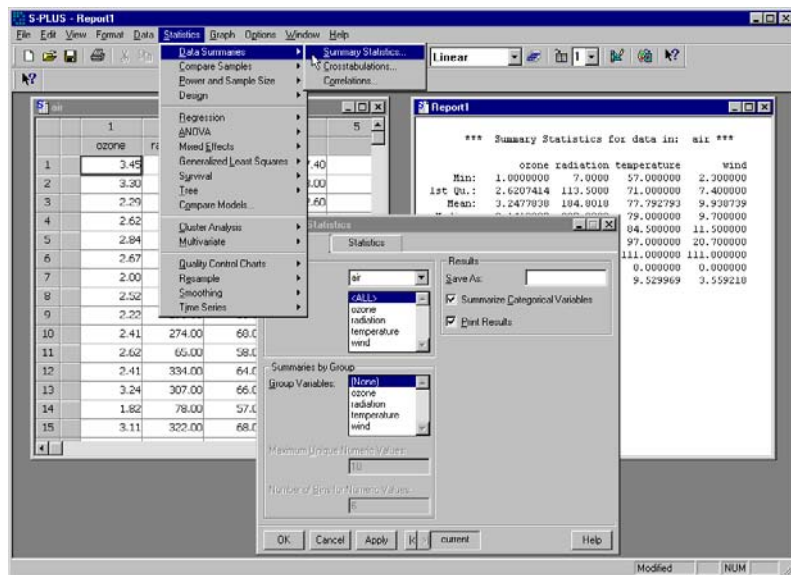

Figure 6.1: Statistics-related menus and windows.
Figure 6.1 displays many elements of the S-PLUS interface.
- **Statistics menu:** The **Statistics** menu gives you access to most of the statistical procedures available in S-PLUS. The procedures are logically grouped, with submenus that allow you to precisely specify the procedure you want to use. For example, in Figure 6.1 the menu tree for summary statistics is shown. It is selected by choosing **Statistics ► Data Summaries ► Summary Statistics**.
- **Statistics dialogs:** The open dialog shown in Figure 6.1 entitled **Summary Statistics**, and is used to specify which data summaries to calculate.
- **Data Window:** The open window on the left in Figure 6.1 is a **Data** window, which you can use to create or edit a data set. See Chapter 2, Working With Data, for a detailed introduction to the **Data** window.
- **Report Window:** The **Report** window displays the results of a statistical analysis. In the example in Figure 6.1, a **Report** window shows the results of the summary statistics.